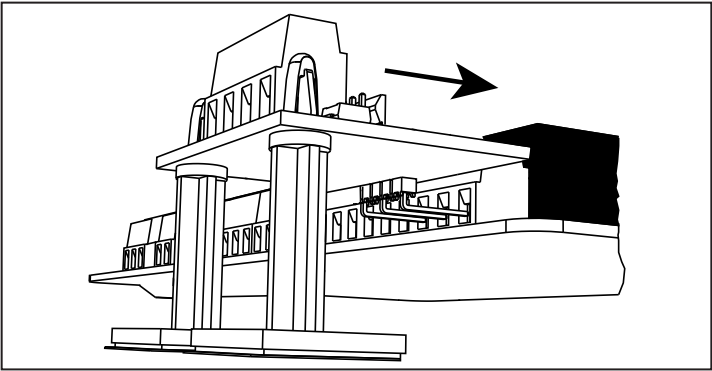

Figure 2.1: Installing the module
2. Align the module connection pins to the desired inputs. Refer to *Figure 2.1*.